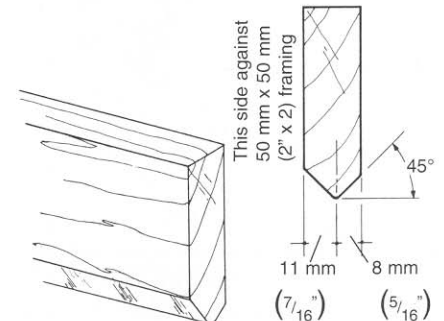

Figure 4.
9. After the triwall material has been attached to one side of the container, it is necessary to fold the material 90°. To produce a crisp and straight fold, a crimping block must be used. A crimping block can be made from a 1 m to 2 m (4' to 6') piece of 25 mm x 75 mm (1" x 3" nominal) hardwood (preferably birch or maple), shaped with a pointed edge as illustrated in Figure 4.